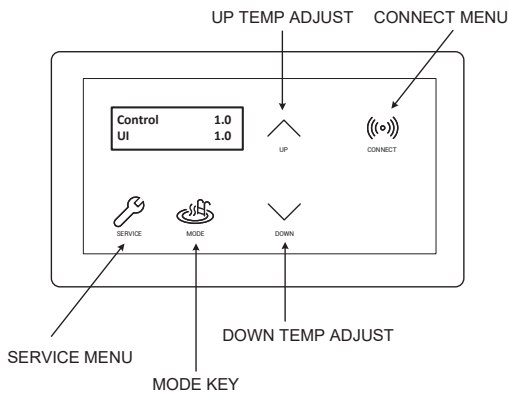

Figure 9. Heater Control Display
The heater display is located in the front panel of the heat pump, covered with a door. All operation and settings of the heater control are accomplished through the use of the five (5) touch keys of the user interface. These keys are displayed in Figure 9.